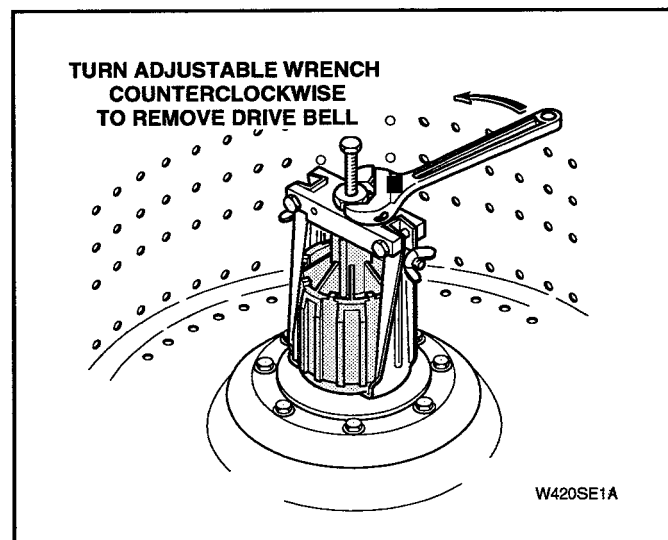

Figure 5-11
- Using an adjustable wrench, turn large nut on tool **COUNTERCLOCKWISE** to pull drive bell from transmission output shaft. See Figure 5-11.